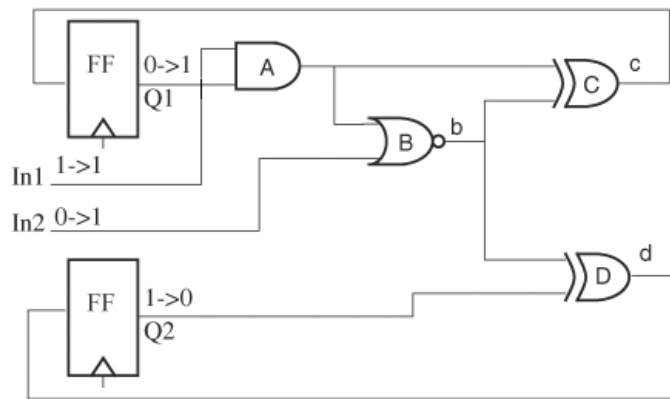
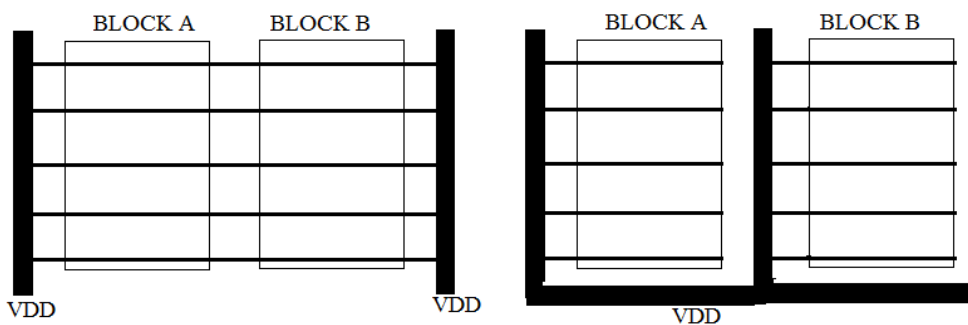

FIG 3A
FIG 4A
- 3A. Briefly explain the cycle based simulators? Do the levelization and apply the topological sort using Depth First Search (DFS) algorithm for the FIG. 3A to get the proper evaluation order?
- 3C. Find the best and worst case rising and falling output transition of 3-input NAND gate driving h identical 3-input NAND gate using Elmore delay model. Transistor widths are chosen to achieve effective rise and fall time and pull-down resistance equal to that of a unit inverter (R).
- 4A. Briefly explain the IR drop, Ldi/dt and electro-migration effect and remedy to resolve these issues during design of power distribution network. In the given FIG. 4A, Which approach is better for power distribution?